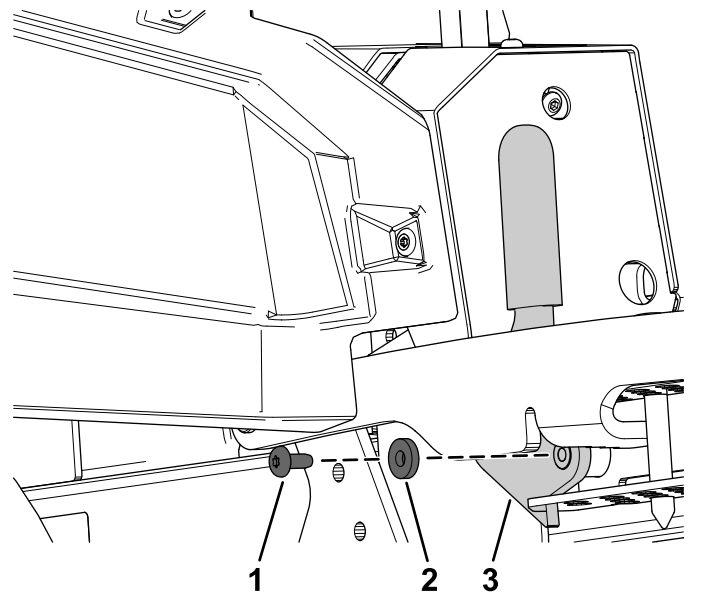

Figure 20
- Remove the bolt, washer, and transport lock (Figure 20).